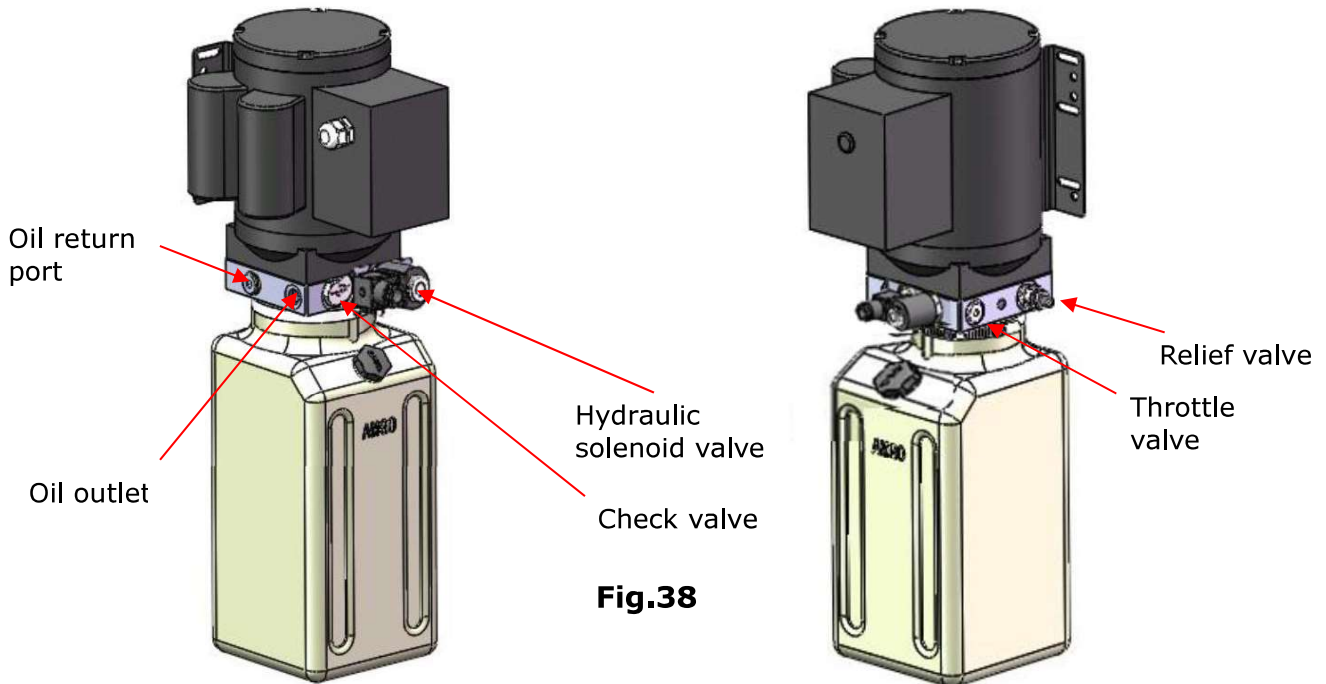

Fig.38
a. Electric power unit, 220V/50HZ, 1 phase (See Fig. 38)